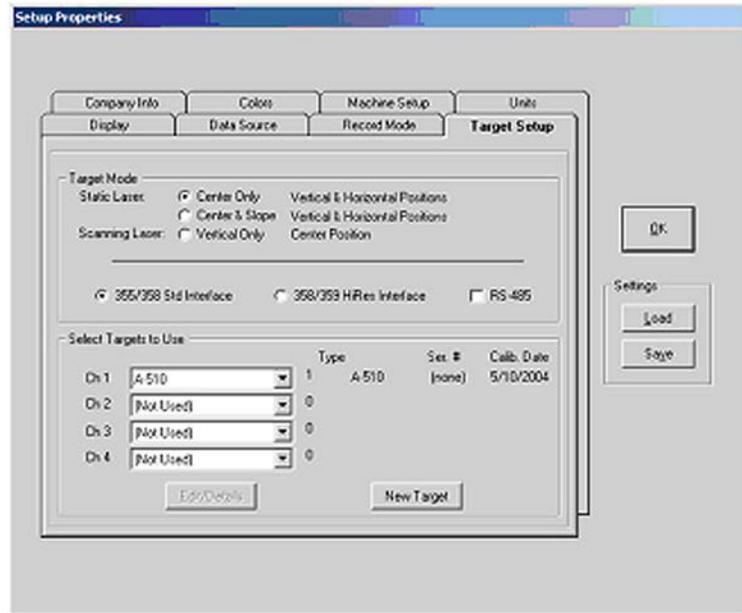
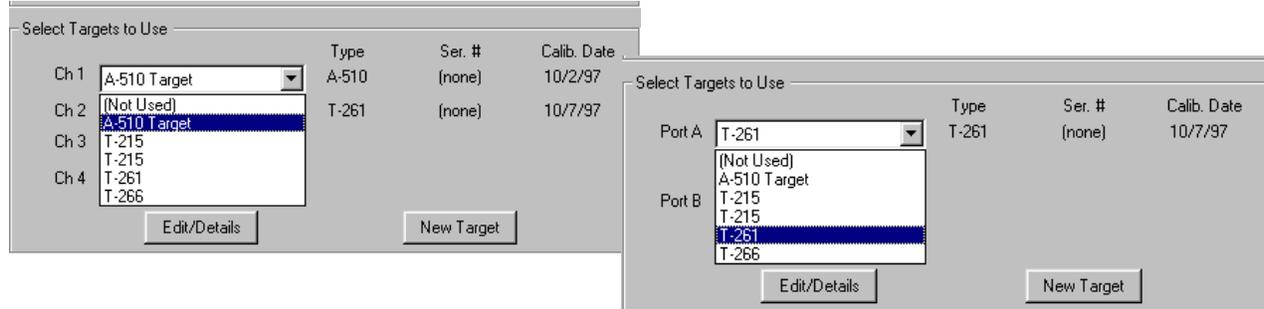
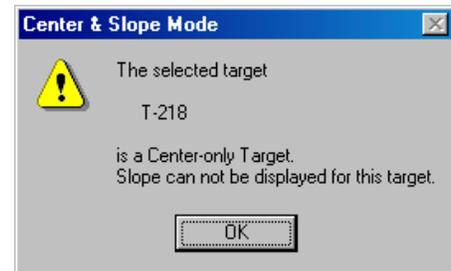
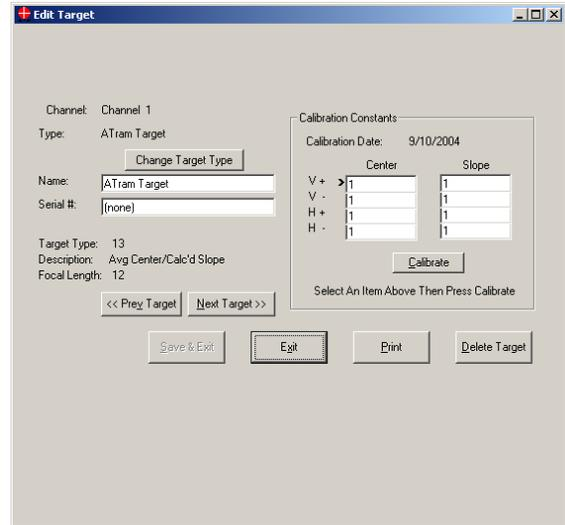

Figure 20 – Target Setup
Figure 22 – Viewing Previously Defined Targets
Figure 23 – Center-Only Warning
Figure 26 – Editing the Target Setup for ATram Targets
If **Static Laser: Center only** or **Scanning Laser: Vertical only** modes are selected, (see Figure 20) select the correct target for Channel 1, Channel 2, Channel 3 or Channel 4, or for as many channels as are in use. All targets previously defined and saved can be displayed by clicking the down arrow (↓) in each Channel list box (see Figure 22).
Note: If **Static Laser: Center and Slope** is selected in the Target Mode area of this screen (see Figure 20) and a center-only target is selected from the target list, a message displays stating that slope cannot be displayed for this target (see Figure 23). In addition, the plot screen displays dashes for the slope values until **SLOPE** is clicked; then center readings display in both windows.
If **Static Laser: Center and Slope** is selected, (see Figure 20) select the correct target for Port A, Port B or both ports if they are both in use. All targets previously defined can be displayed by clicking the down arrow (↓) in the Port A or Port B list box (see Figure 22).
Selecting either the ATram (averaging) or DTram (differential) targets from the target list allows any two dual-axis targets to be connected to Channel 1 and Channel 2 of Port A. This configuration then *simulates* a 4-axis target with any desired separation between the two cell planes (the default separation is 12 inches as shown in Figure 26). **Static Laser: Center and Slope** must *always* be selected as the Target Mode for both ATram and DTram targets (see Figure 20).
- Separation value = the distance from the front of the Channel 1 target to the front of the Channel 2 target (see Figure 26).